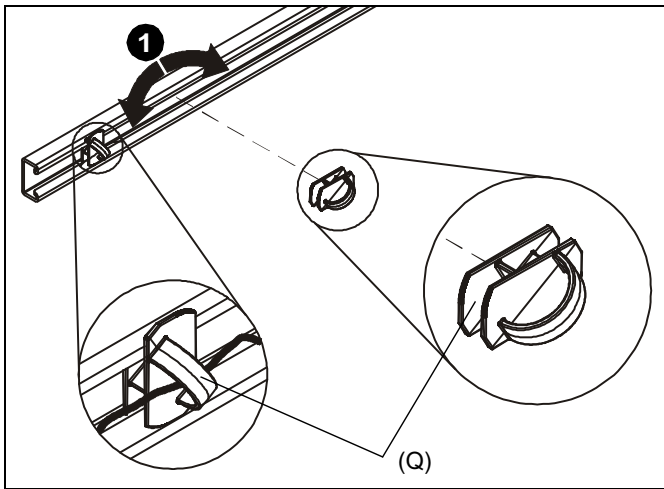

Figure 17
1. Place cable clip (Q) into rail and turn 90° in either direction until cable clip is vertical. (See Figure 17)
3. Fasten cables and cords to cable clips (Q) using cable ties (P).